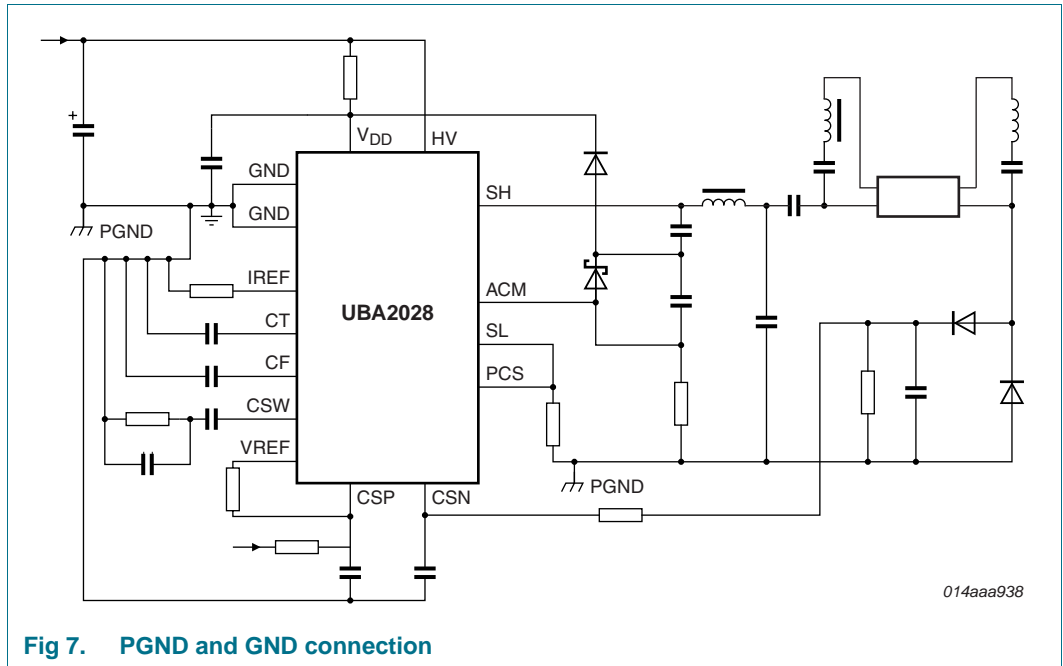

Fig 7. PGND and GND connection
The internal oscillator is a Voltage Controlled Oscillator (VCO) circuit which generates a sawtooth waveform between the  $V_{o(\text{osc})\text{max}}$  level and 0 V. The frequency of the sawtooth is determined by capacitor  $C_{CF}$ , resistor  $R_{IREF}$ , and the voltage at pin CSW. The minimum and maximum switching frequencies are determined by  $R_{IREF}$  and  $C_{CF}$ ; their ratio is internally fixed. The sawtooth frequency is twice the half-bridge frequency. The UBA2028 brings the transistors TR1 and TR2 into conduction alternately with a duty cycle of approximately 50 %. An overview of the oscillator signal and driver signals is illustrated in Figure 7. The oscillator starts oscillating at  $f_{\text{max}}$ . During the first switching cycle the Low-Side (LS) transistor (TR2) is switched on. The first conducting time is made extra long to enable the bootstrap capacitor to charge.
The non-overlap time is realized with an adaptive non-overlap timing circuit (ANT). By using an adaptive non-overlap circuit, the application can determine the duration of the non-overlap time and make it optimum for each frequency; see Figure 7. The non-overlap time is determined by the slope of the half-bridge voltage, and is detected by the signal across resistor R15 see Figure 8 (R6 in Figure 9) which is connected directly to pin ACM. The minimum non-overlap time is internally fixed. The maximum non-overlap time is internally fixed at approximately 25 % of the bridge period time. An internal filter of 30 ns is included at the ACM pin to increase the noise immunity.
The connection of PGND and GND is shown in Figure 7